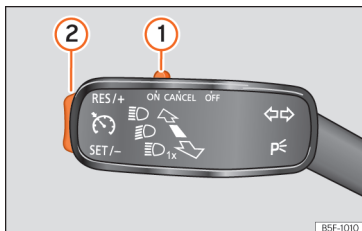

Fig. 222 On the turn signal lever: controls for operating the GRA.
- Move the control »» Fig. 222 (1) to **ON**.
- Press button »» Fig. 222 (2) in area **SET/-**.
- Move the control »» Fig. 222 (1) to **CANCEL** or step on the brake.
- Press button »» Fig. 222 (2) in area **RES/+**.
While the GRA is set, the stored speed can be adjusted with button »» Fig. 222 (2):
- To increase in increments of 1 km/h (1 mph) briefly press button »» Fig. 222 (2) in the area **RES/+**.
- To increase the speed without interruption, keep button »» Fig. 222 (2) pressed down in the area **RES/+**.
- To reduce in increments of 1 km/h (1 mph) briefly press button »» Fig. 222 (2) in the area **SET/-**.
- To reduce the speed without interruption, keep button »» Fig. 222 (2) pressed down in the area **SET/-**.
- Move control »» Fig. 222 (1) to **OFF**.